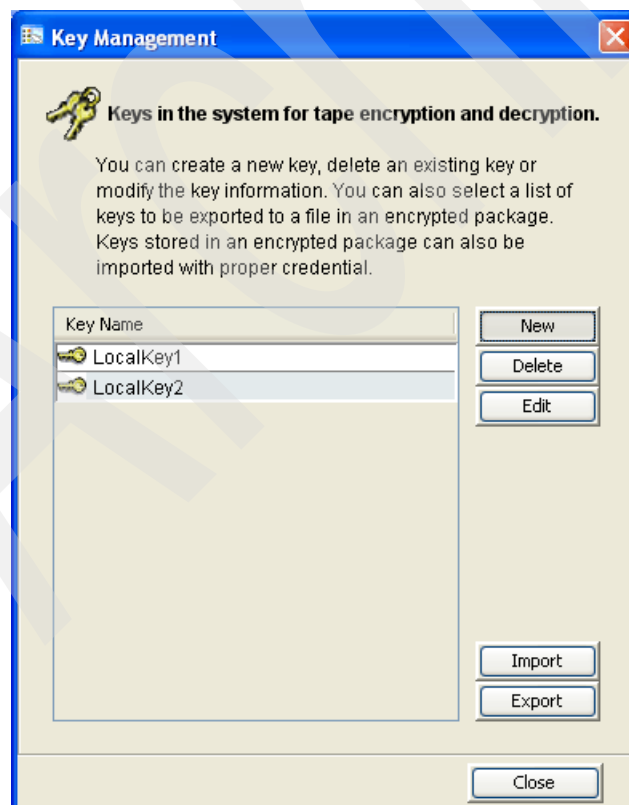

Figure 12-65 Selecting LocalKey1 to edit
2. Select the key that you need to change in Figure 12-65 and click **Edit**.